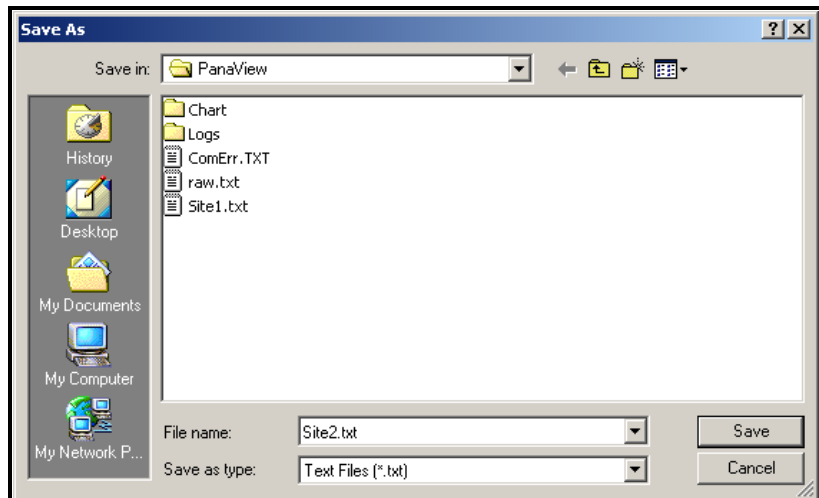

Figure 13: *Save As* Window
To *save* the raw signal, click *Save*. A window opens similar to Figure 13 below. Enter the desired name, and click *Save* to save the signal as a text file.
2. Click *Save Site to PC*. A window opens similar to Figure 13 on page 11.